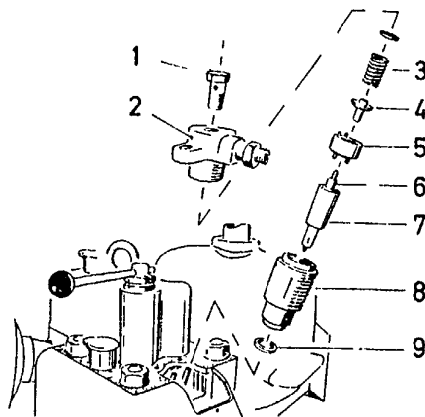

Fig 12
4. Check injector nozzle, clean if necessary. (Multihole 150 kg/cm2, 2135 p.s.i.). Page 8, fig 12.
Dismantle injector holder as shown in fig. 12. Rinse all parts in clean fuel oil and remove dirt with a wooden stick and wipe with clean rag.
#### Checking Injector (fig. 12):
Dismantle injector holder as shown in fig. 12. Rinse all